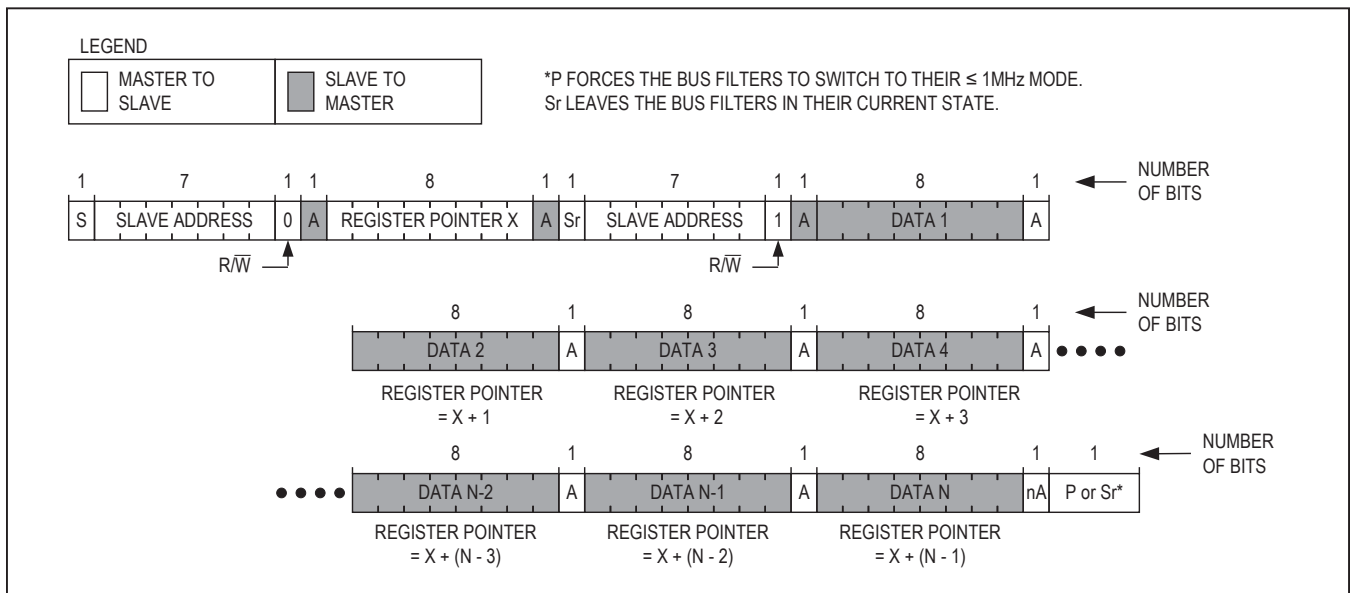

Figure 16. Reading Continuously from Sequential Registers
Figure 16 shows the protocol for reading from sequential registers. This protocol is similar to the “Read Byte” protocol, except the master issues an ACKNOWLEDGE (A) to signal the slave that it wants more data. When the master has all the data it requires, it issues a NOT-ACKNOWLEDGE (nA) and a STOP condition (P) to end the transmission.